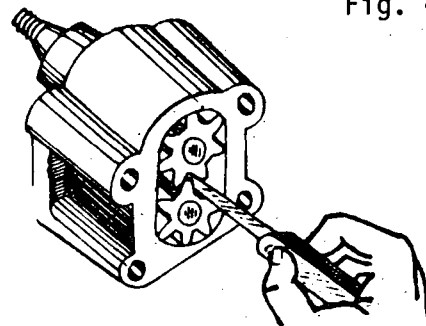

Fig. 5
- c) Measure the backlash of the gear (Fig. 5).